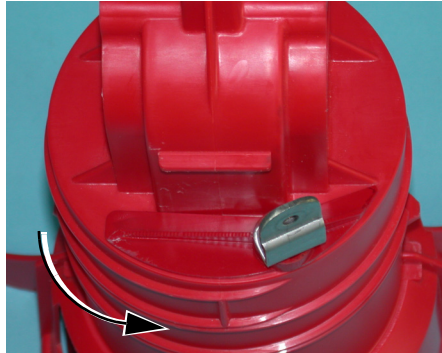

Figure 22. Rotate brood adjustment prior to grill installation.
2. Rotate brood adjustment until cover washer is flush with outer cone, see figure 22.